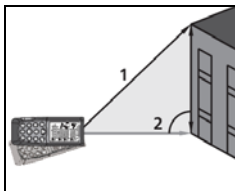

Fig. 9: Indirect 2-point measurement
3. Position the instrument in the highest point (1) of measurement (see Fig. 9) and press the  key or the side **MEAS** key to measure. The result appears on the first partial display. The symbol "" appears on the display with side "2" flashing
4. Position the instrument as horizontally as possible (2) (see Fig. 9) and press the  key or the side **MEAS** key to measure. The result appears on the second partial display
5. The final value of the result (obtained as $\sqrt{(1)^2 - (2)^2}$) is shown on the resulting display